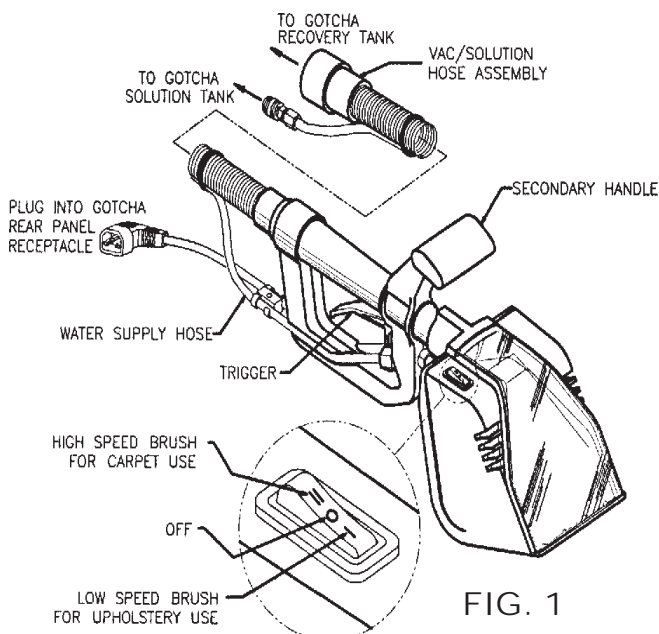

FIG. 1
2. Connect the vac/solution hose assembly to the "Gotcha!" (see fig. 1) or the Ambassador (see fig. 2A).
5. This tool is equipped with a 3-position power switch. The single bar position is for "low" speed. The center position is "off". Double bar position for "high" speed (see fig.1)